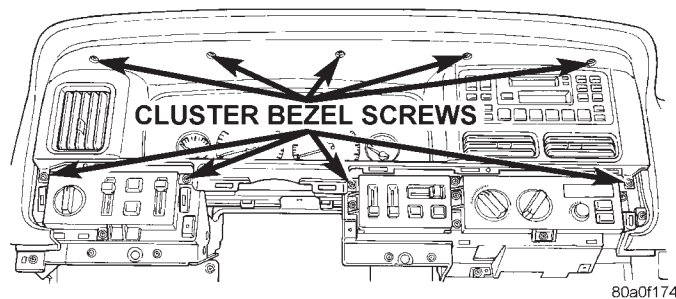

Fig. 5 Cluster Bezel Screws Remove/Install
(1) Disconnect and isolate the battery negative cable.
(2) Remove both switch pod bezels as described in this group.
(3) Remove the nine screws that secure the cluster bezel to the instrument panel (Fig. 5).